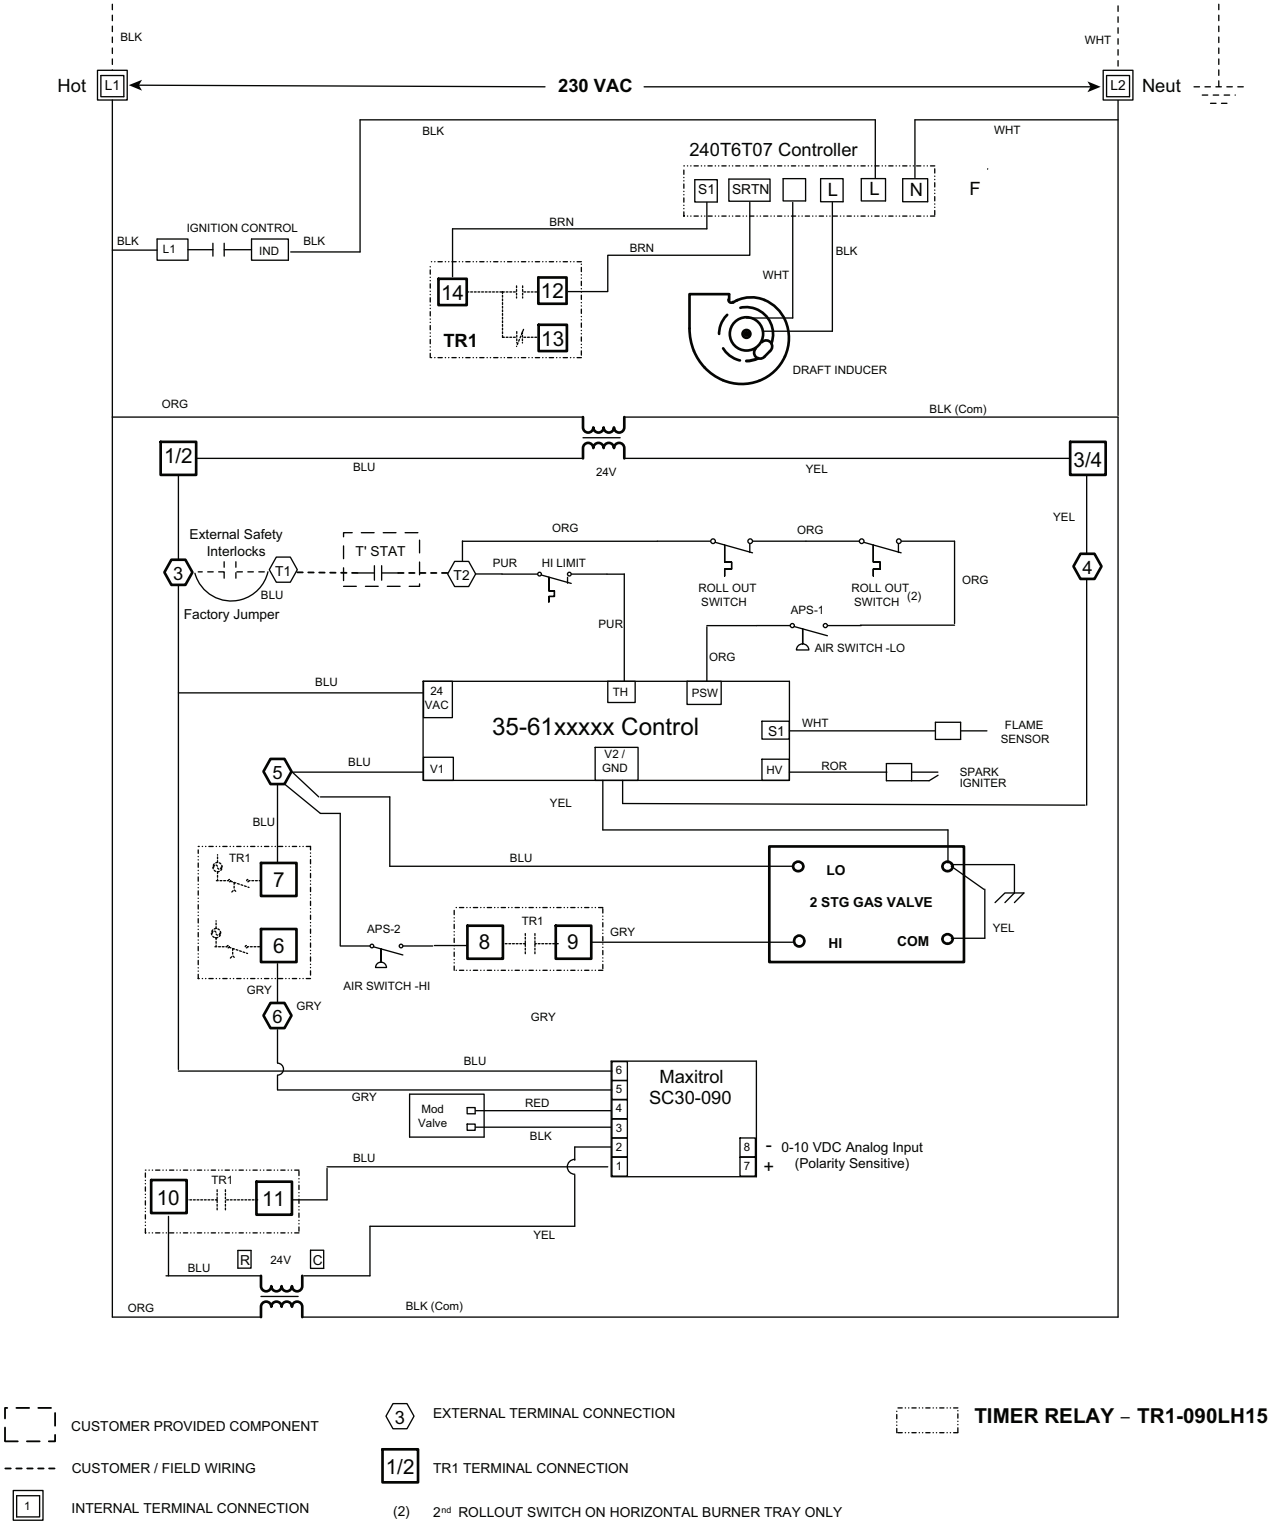

Fig. 91 — Modulating Heat Wiring Diagram
To avoid internal damage to the TR1, Transformer No. 2 (see Fig. 91) secondary must not be grounded in any portion of the circuit external to the A1093/SC30. A separate, independent transformer is recommended.
When the system is powered up 24 VAC will be applied to the ignition control (IC) terminals 24VAC/R and to the Timer Relay Control (TR1). The ignition control will reset, perform a self check routine, initiate full time flame sensing, flash the diagnostics LED for up to four seconds and enter the thermostat scan standby state. The amber light on the TR1 will be lit indicating it is in the ready position. See Fig. 91.